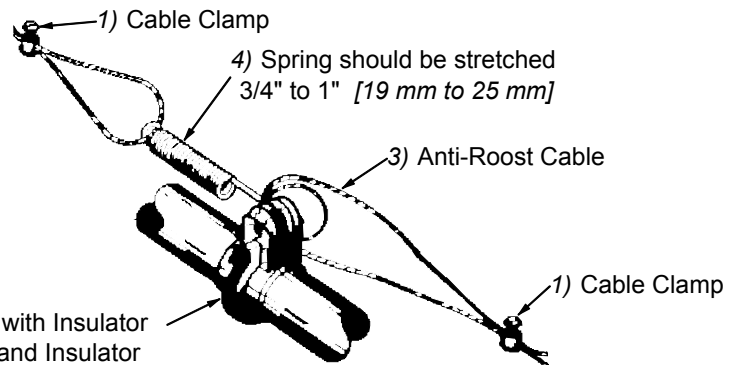

Figure 50. Anti-Roost Cable at the Hopper
4. Attach a spring in the center groove at the second anti-roost bracket and cut the cable at this point, see figure 50.
5. Thread the ends of the cable through the end of the spring. Pull the cable tight so there is 3/4" to 1" (20 to 25 mm) of stretch in the spring. Clamp the cable to form a loop and cut off any excess, see figure 50.
6. Attach the cable to the insulator. For best results, make a double loop around the anti-roost insulator in the center groove of the insulator and fasten with a 1/16" cable clamp as shown in Figure 50.